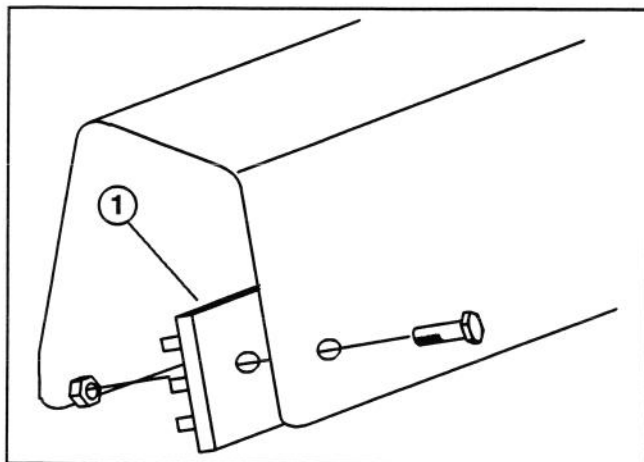

Figure 3
11. Using hole drilled in instrument panel, mount timer to inside of instrument panel with a 1/4-20 x 1-1/4" lg. cap screw and locknut (Fig. 3). Timer to be positioned so terminals point inward and are aligned vertically with rear edge of instrument panel.